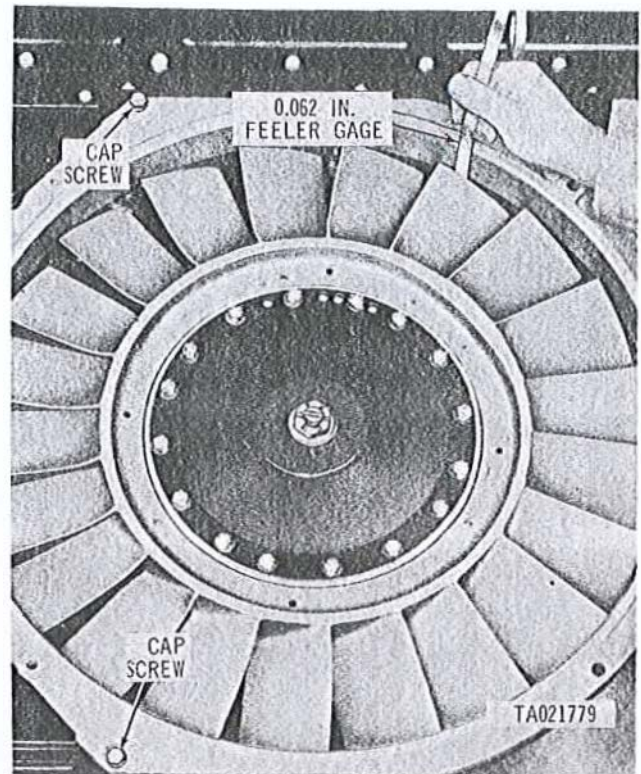

Figure 2-61. Checking cooling fan blade clearance.
(24) With cooling fan shroud and fan housing installed, check clearance between end of each cooling fan blade and rim of cooling fan housing with feeler gage (fig. 2-61). Clearance must be 0.062 inch minimum. When clearance is not within limits, loosen screws (fig. 2-61) and shift housing as necessary until clearance is obtained.